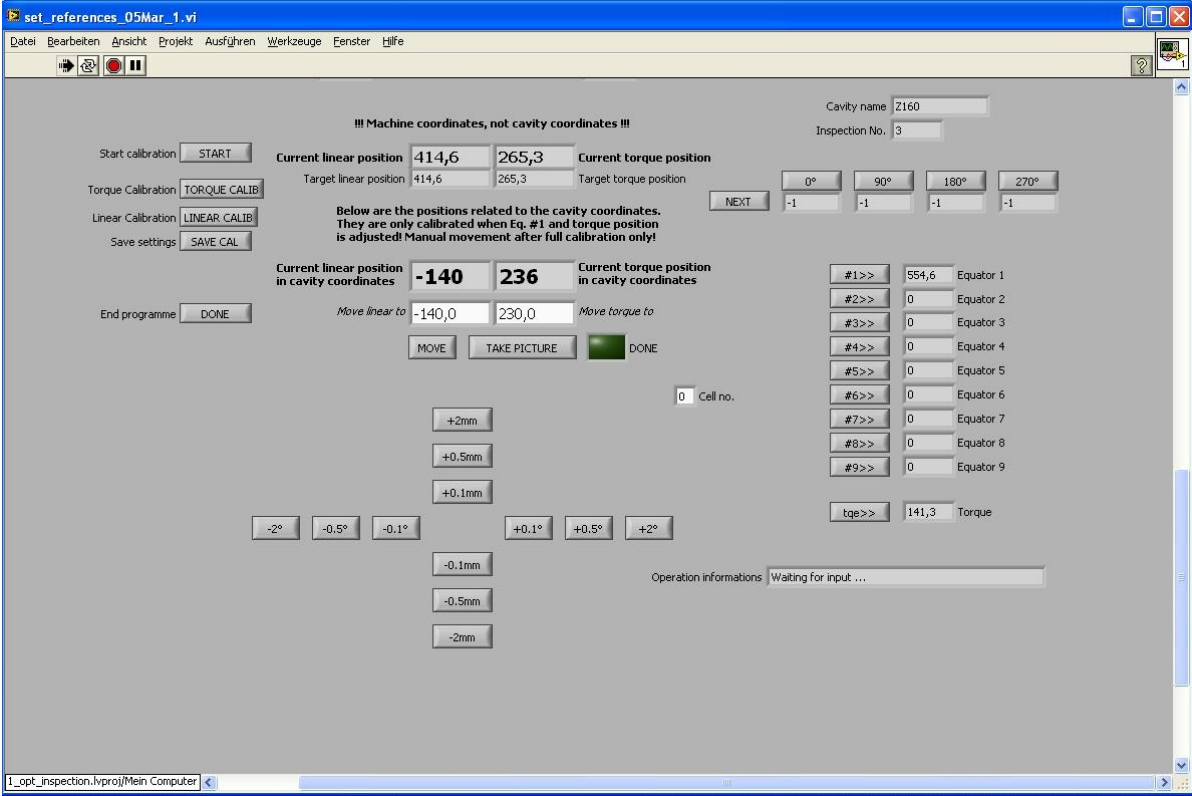

Figure 6: Screen shot of tool for motor coordinate calibration – start_references.vi
The user interface for calibration looks like shown in figure 6. It may be, that single pushes on buttons of this tool do not work, just push again!
4. For the calibration of the linear motor press 'LINEAR CALIB', bring the welding seam in the picture center via the cross pattern buttons and confirm the adjustment via the '0°' knob in the upper right quadrant of the GUI (cf. figure 6). Push 'NEXT' for the next angle setting and redo the procedure for all four.